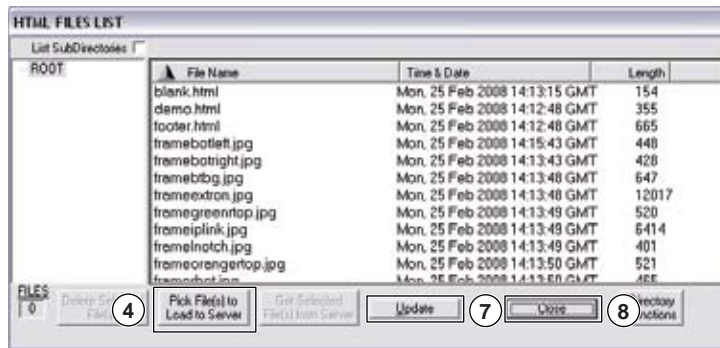

Figure 43. HTML Files List Window
You can create customized HTML pages for the switcher to display. The **HTML Files List** window (see figure 43), accessible via the **Tools** menu, provides a way to view the contents of the file system of the switcher and upload custom HTML pages to the switcher.
- The files listed in figure 43 are shown for example only and may not be present on your switcher.